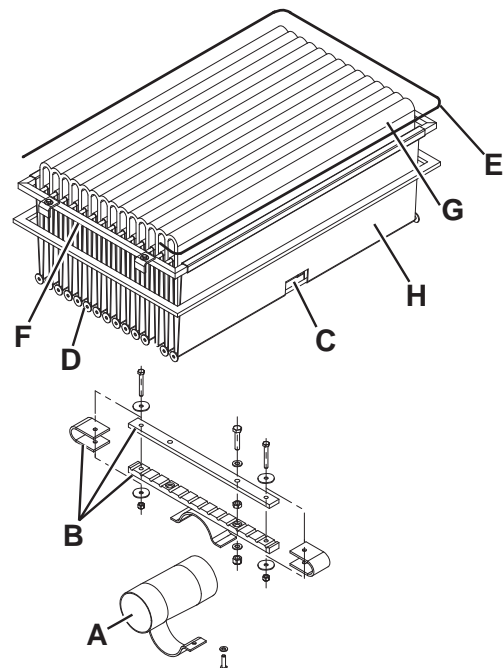

Figure 18
9. Remove the filter shaker motor (A, Fig. 18) by unscrewing the two mounting screws.
10. Open the filter shaker motor support unit (B, Fig. 18) completely, and release the filtering pocket tension rods (C).
11. Remove all the filtering pocket tension rods (D, Fig. 18).
12. Open the upper retaining cord (E, Fig. 18) of the closed pocket filter to remove it from the upper frame (F).
13. Remove the inner pocket separator (G, Fig. 18).
14. Clean the polyester fiber surface (H, Fig. 18) from the dirty side (by using an external vacuum cleaner), spreading it out completely or cleaning pocket by pocket. At the same time, clean both surfaces of the pocket separator (G, Fig. 18), thus removing anything deposited on them. Check the filtering surface for tears and replace it if necessary. It is also possible to use compressed air (maximum 6 Bar), blowing the air from the clean side towards the dirty side.